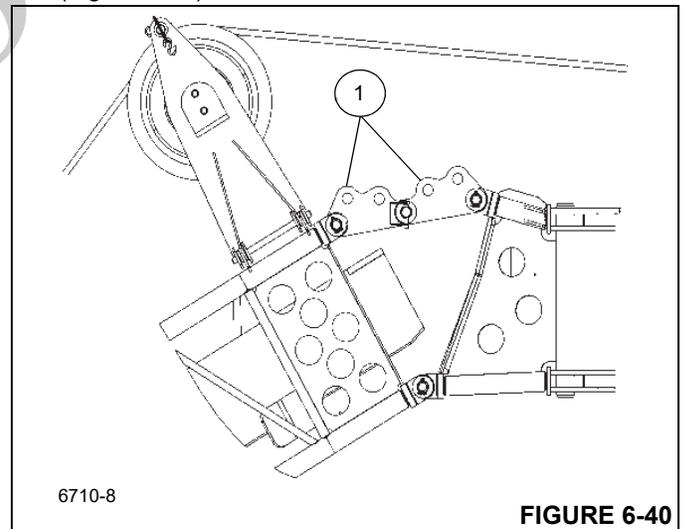

FIGURE 6-40
4. Slowly elevate and telescope the boom at the same time until the offset brackets (1),(Figure 6-40) are fully extended.